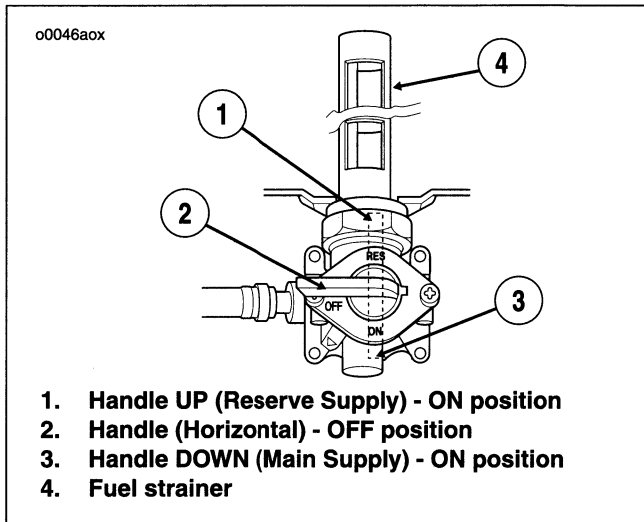

Figure 20. Fuel Supply Valve
- See Figure 20. Turn the handle (Item no. 2) to the horizontal position to turn OFF main fuel supply.